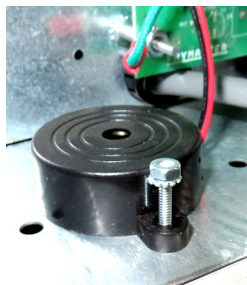

Figure 3
6. Disconnect the sound device from the interface board and carefully remove the screw and nut attaching the sound device (see Figure 3). Set aside the sound device, nut and screw to use later.